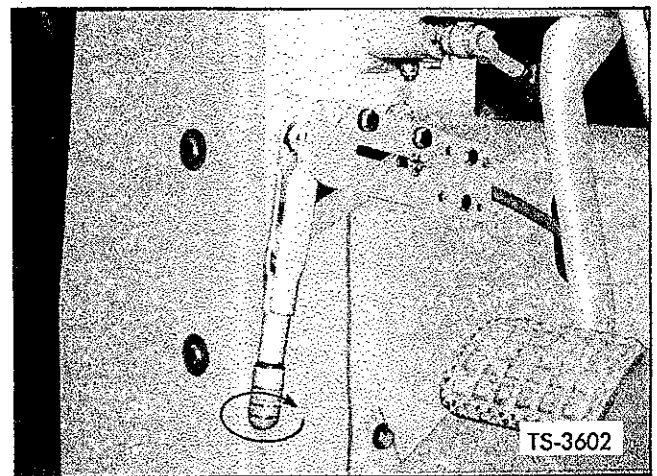

Fig. 26. Adjust Parking Brake at Handle
1. With lever in released position turn acorn on end of handle clockwise as shown in Figure 26.